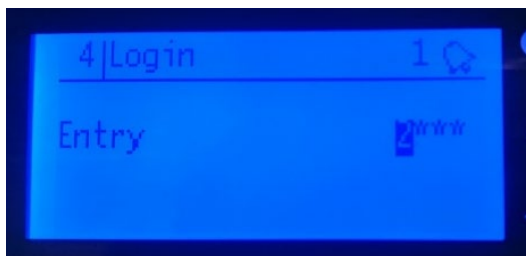

Figure no. 15
- Enter service password: **2000** by rotating control wheel and pressing Enter after each number you entered. (see figure no. 15)